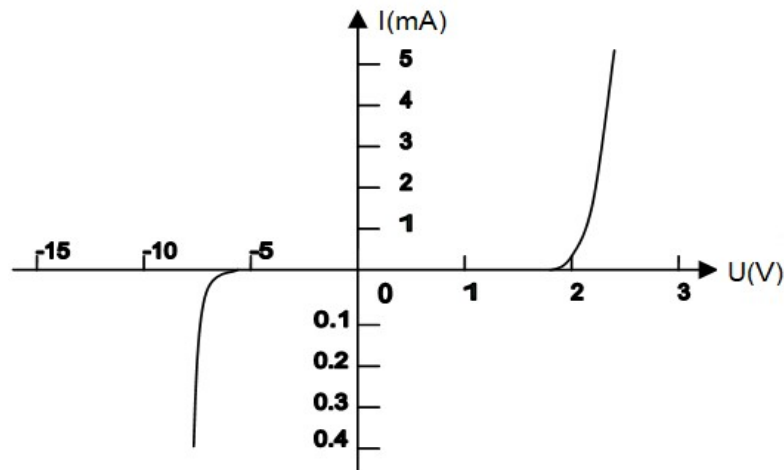

Figure 5 Relationship between voltage and current of LED
- f) V-I characteristic: The relationship between LED voltage and current, as shown in Figure 5.